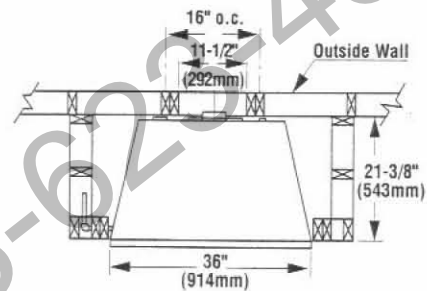

Figure 3
Step 1. Frame appliance enclosure as illustrated in *Figures 3 through 5*.